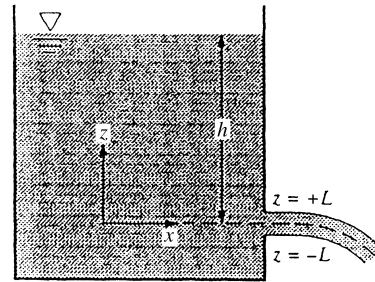

Fig. P3.6
**3.6** When a gravity-driven liquid jet issues from a slot in a tank, as in Fig. P3.6, an approximation for the exit velocity distribution is  $u \approx \sqrt{2g(h-z)}$ , where  $h$  is the depth of the jet centerline. Near the slot, the jet is horizontal, two-dimensional, and of thickness  $2L$ , as shown. Find a general expression for the total volume flow  $Q$  issuing from the slot; then take the limit of your result if  $L \ll h$ .